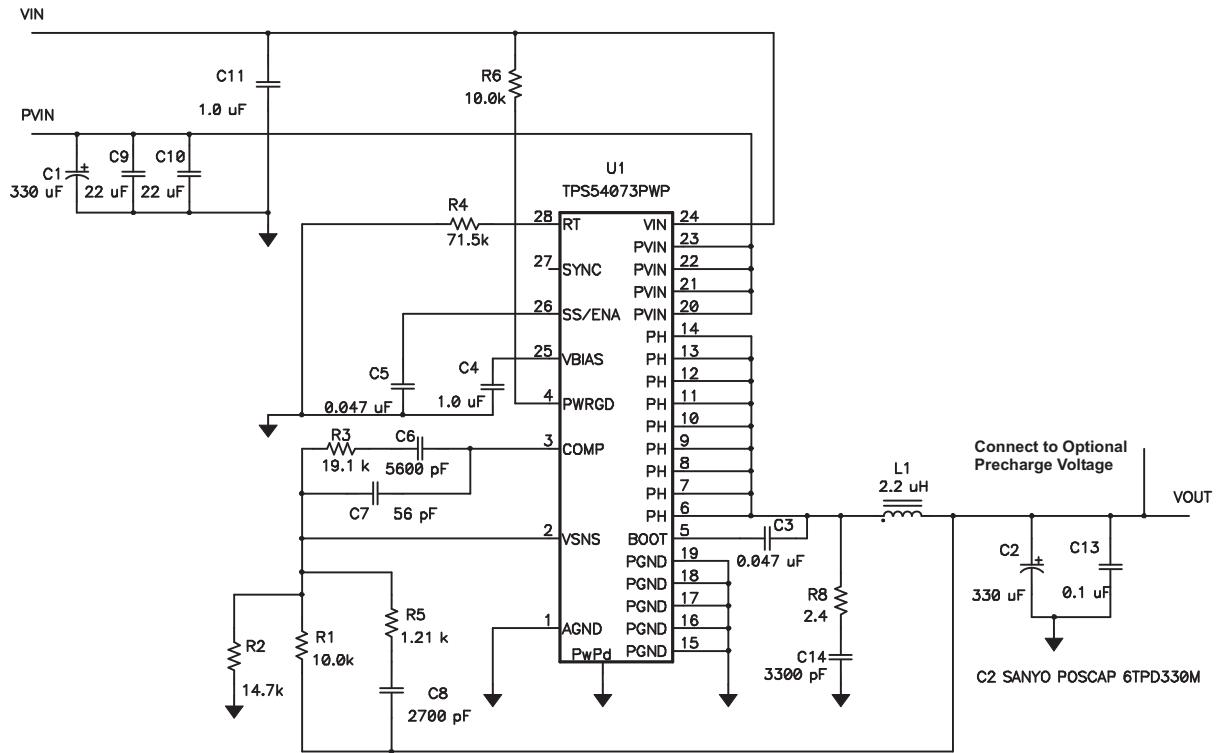

Figure 12. Application Circuit, 3.3 V to 1.5 V
(3) Specified by design
(4) Specified by the circuit used in Figure 12
Figure 12 shows the schematic for a typical TPS54073 application. The TPS54073 provides up to 14-A output current at a nominal output voltage of 1.5 V. Nominal input voltages are 3.3 V for PVIN, and 3.3 V for VIN. For proper thermal performance, the exposed PowerPAD underneath the device must be soldered to the printed-circuit board.